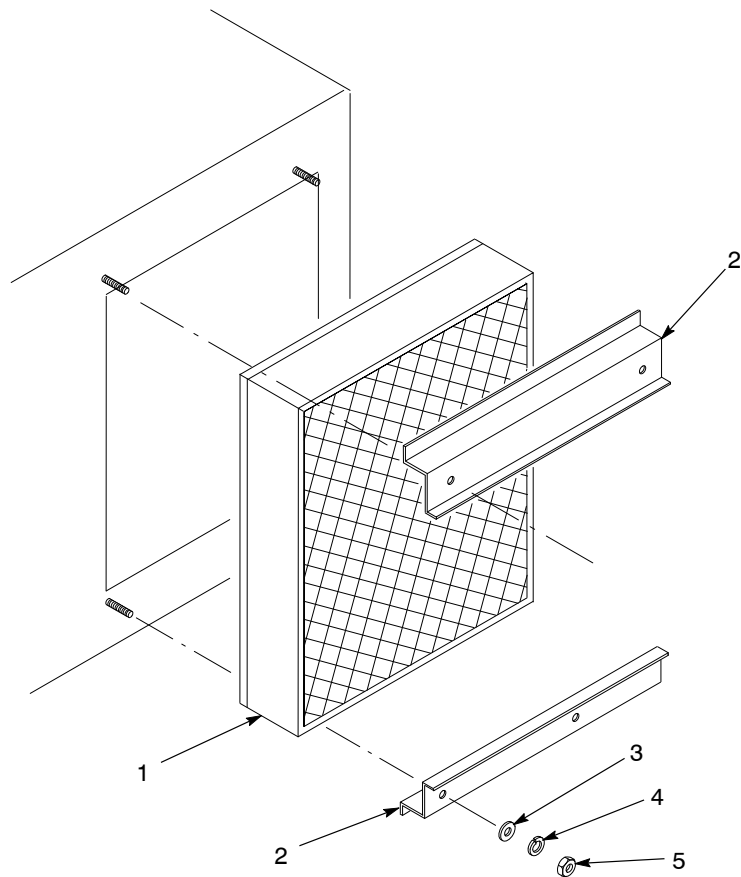

Figure 6-1 Final Filter Replacement
2. See Figure 6-1. Remove the nuts (5), lock washers (4), flat washers (3), and upper Z-brackets (2).
3. Loosen the lower Z-bracket nuts. Remove the old filters (1).